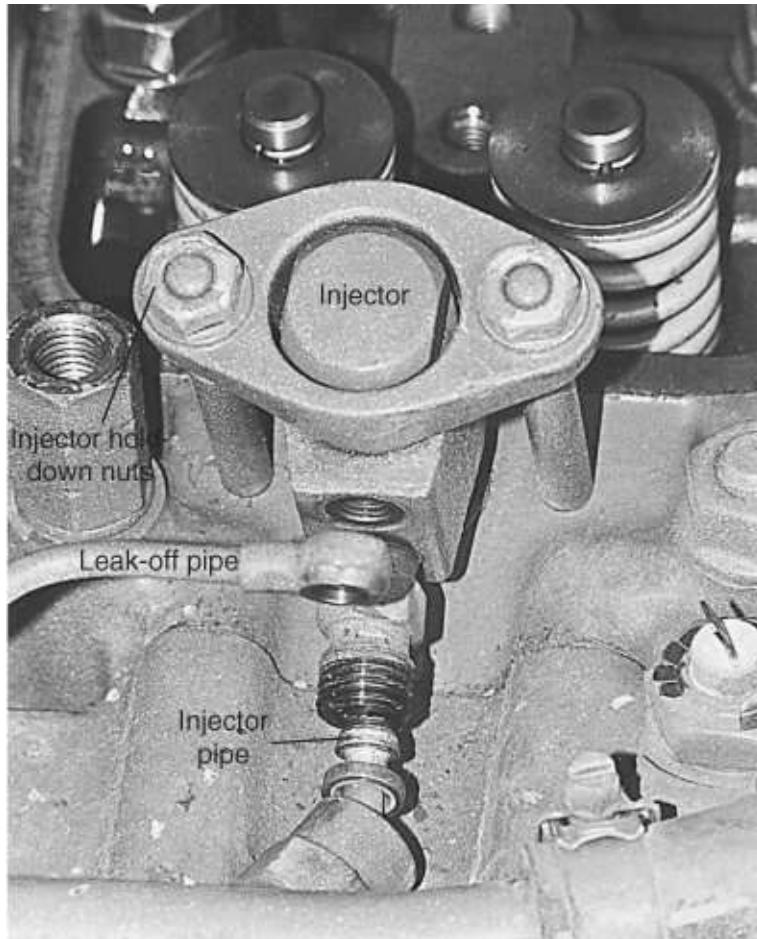
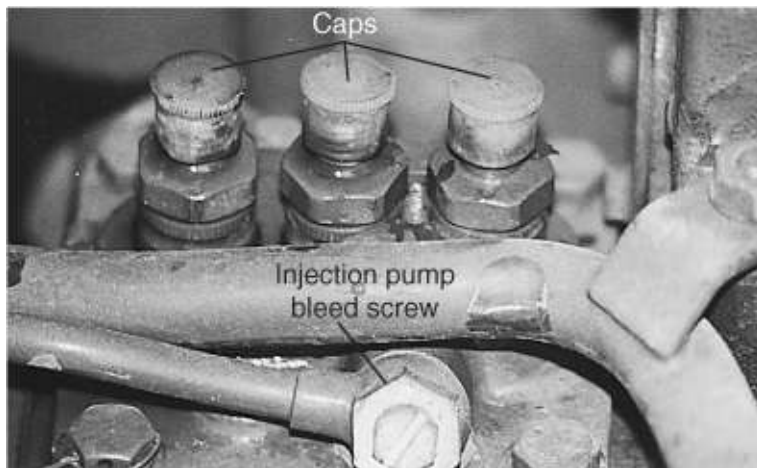

FIGURE 7-4. *A cylinder head with the injector lines broken loose.*
FIGURE 7-5. *Properly capped fuel lines on a Volvo MD 17C injection pump.*
5. Break loose all injection lines (delivery pipes) from their respective injectors (or the fitting on the outside of the cylinder head if they are internal) and from the injection pump (see Figure 7-4). The minute you disconnect any fuel line, you must cap both the fuel line and the unit to which it is attached to prevent the entry of ANY dirt into the fuel system (see Figure 7-5). Number the fuel lines for ease of reassembly—a piece of masking tape and a felt-tip pen work fine. If the injectors are to be overhauled, taking them out now is easier than when the cylinder head is off (see the Injectors section, beginning on page 154).